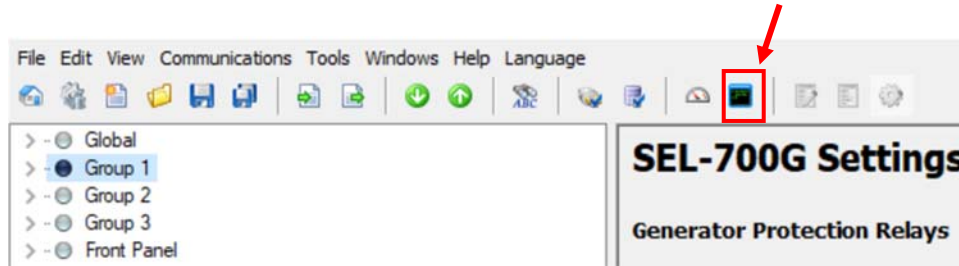

Figure 43: Open Terminal Window
16. Open the terminal window in the QuickSet software as shown in Figure 43 and do the following: